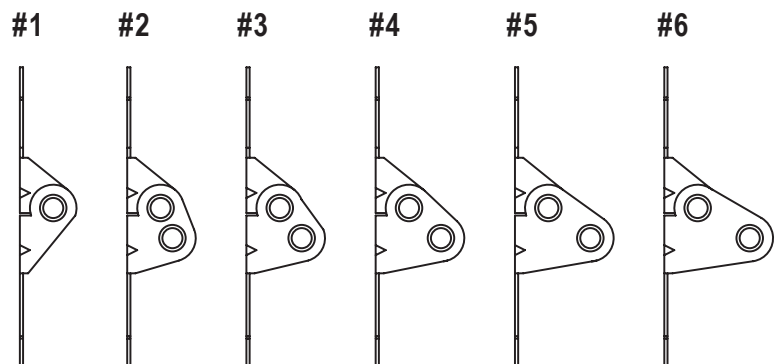

Fig. 2-S
Step 1: On the inside of your opening should be framed with wood jambs, 2" x 6" [51 mm x 152 mm] if possible, or with steel channel. The side jambs should extend to approximately the same height as the headroom required. If you have just removed an old door, the condition of the jambs should be inspected. If the jamb has deteriorated, it should be replaced now. The jambs should be plumb and the header level. If there are any bolts fastening the jambs to the wall, the heads should be flush so they don't interfere with the installation of your new door (Fig. 1-J). Typical installation for wood, steel or masonry jamb material is shown in Fig. 2-J.
Install hinges on end and center stiles of the bottom section using #14 x 3/4" [6 mm x 19 mm] self-drilling screws. See Fig. 2-S for sequence and hinge placement.
Step 3: Second Section. Attach bottom half of center hinges to top of section using #14 x 5/8" [6 mm x 16 mm] hex head sheet metal screws. Attach end hinges (Fig. 2-S). Attach reinforcement strut, if supplied. Refer to "Door Reinforcement Attachment" for instructions. If section has lock see Step 4 for sequence. Stack section. After section is stacked, rollers in the track will hold section in place.
Step 5: Third Section and Up (Does not include top section). Place section face down on sawhorses. Attach bottom half of center hinges to top of section using #14 x 5/8" [6 mm x 16 mm] hex head sheet metal screws. Attach end hinges (Fig. 2-S). Attach reinforcement strut, if supplied. Refer to "Door Reinforcement Attachment" for instructions. After section is stacked, rollers in the track will hold section in place.